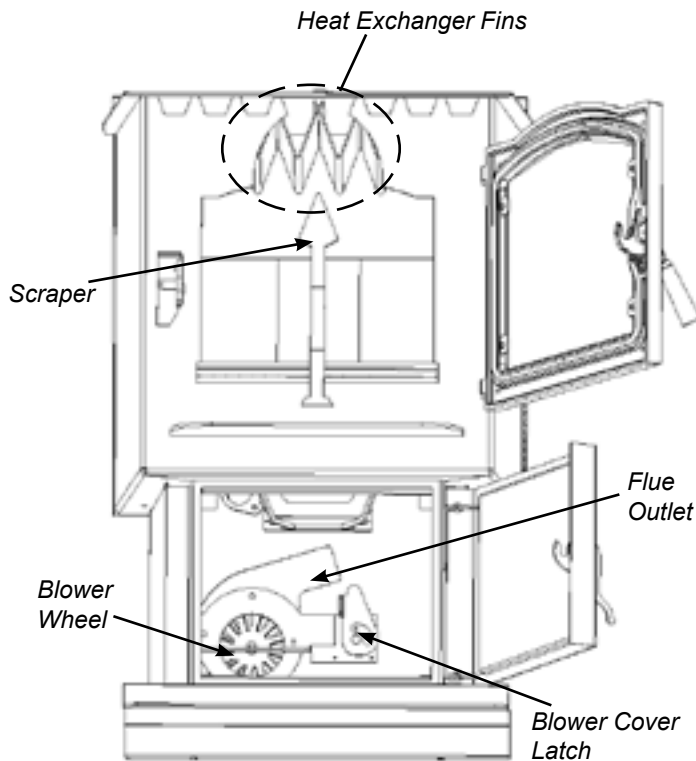

Fig 27
2. Clean heat exchanger with scraper as shown in fig 27.
7. Remove combustion blower cover by turning the blower cover latch vertical, see Fig.26. Sliding the cover out of the slot on the left. This will expose the combustion blower wheel and flue outlet, Fig.27.
9. Use a brush to clean the flue, being careful not to damage the ESP probe, see Fig. 30. The flue goes straight through into the vent pipe (Fig.27) therefore, the vent pipe can also be cleaned to some extent through the flue outlet.